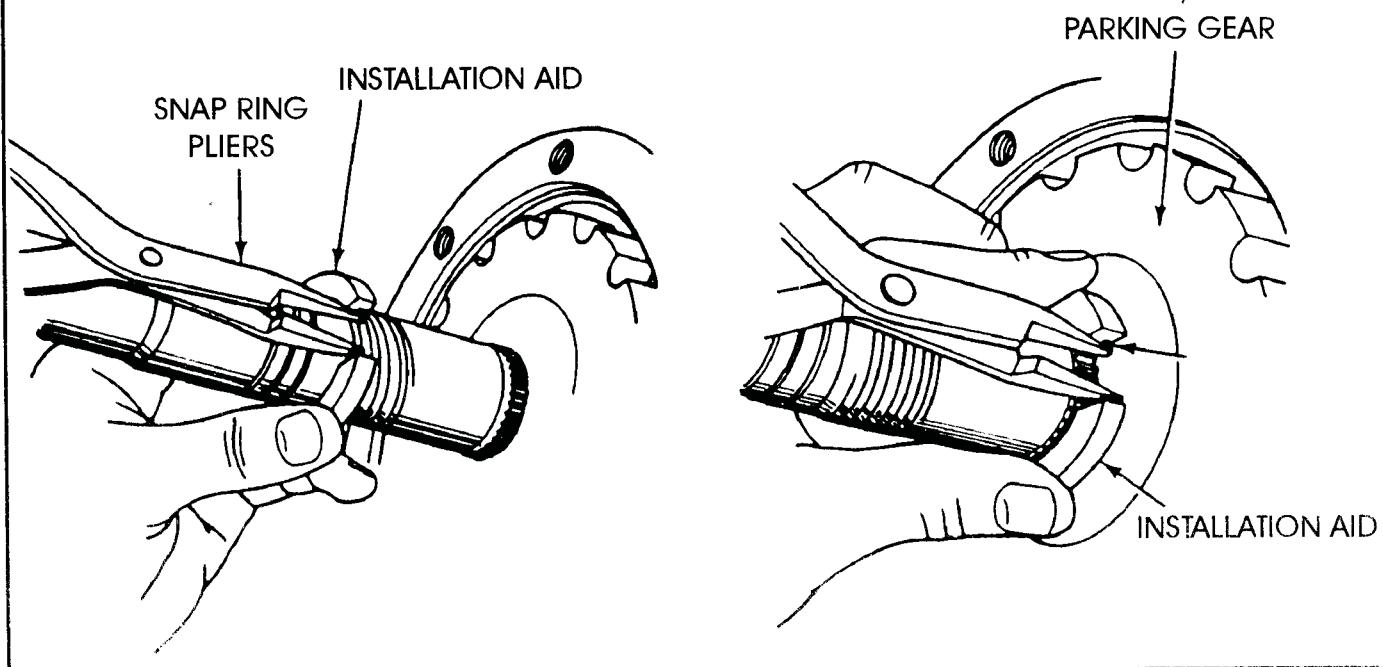

Figure 25
**CORRECTION:** There is now available a new service package, under OEM part number F0TZ-7A040-A, that includes a new design extension housing with a new "Boss" cast into it to prevent the parking gear from moving rearward in case the snap ring breaks (See Figure 24). The service package also includes a new "*high strength*" snap ring, and a snap ring installation aid, as shown in Figure 25.